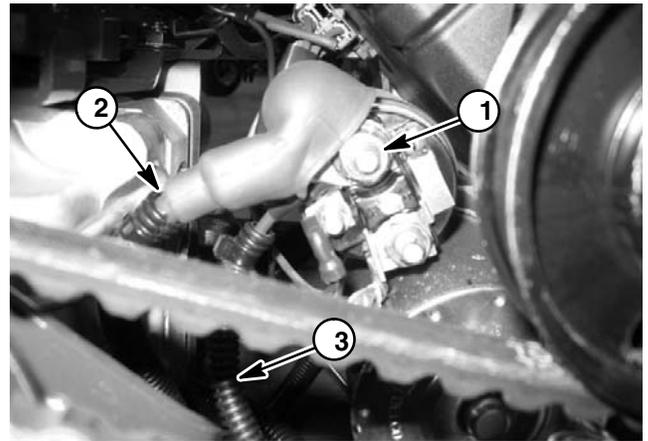

Figure 9
A. Remove harness red wire and positive battery cable from the starter motor solenoid stud (Fig. 9).
- E. Connect red wire and positive battery cable to the starter motor solenoid stud (Fig. 9).
7. After engine installation, verify pulley alignment across engine and hydraulic pump pulley faces with a straight edge. If necessary, loosen two (2) set screws on hydraulic pump pulley and adjust location of pulley. Retighten pulley set screws after adjustment.